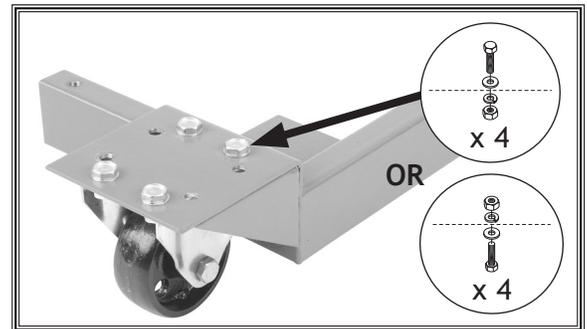

Figure 17. Options for mounting fixed casters to eight hole pattern corner brackets.
- Mount each fixed caster to a corner bracket with the eight hole pattern using (4) M8-1.25 x 16 hex bolts, 8mm flat washers, 8mm lock washers, and M8-1.25 hex nuts, as shown in **Figure 17**.